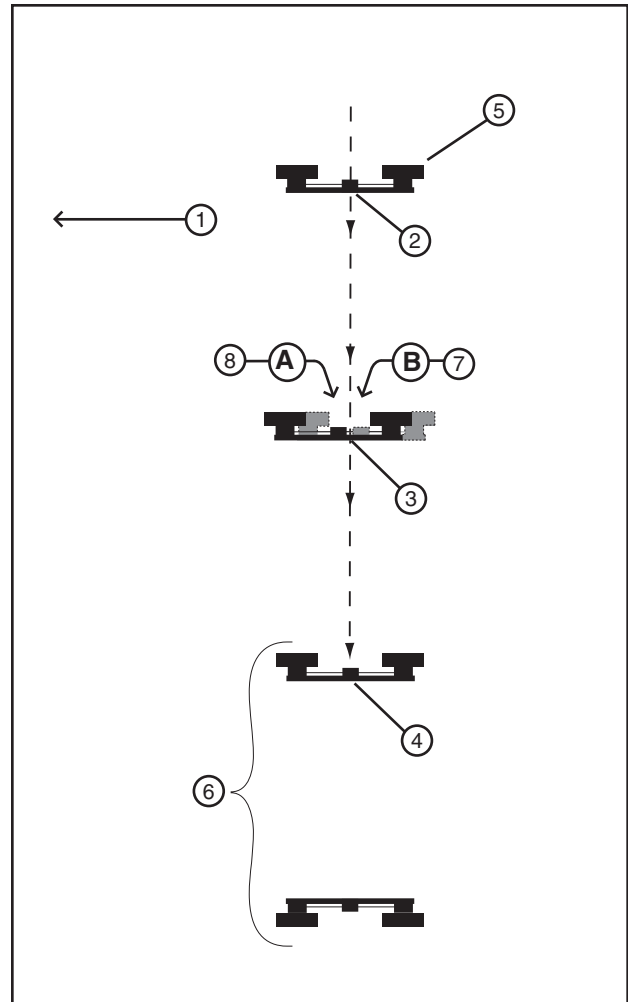

Figure 99-1 1. Direction of Travel 5. End Tower
2. Begin the alignment procedure from an end tower. Identify the first three towers as 1, 2, and 3. Use towers 1 and 3 to align tower 2. See figure 99-1.
3. Sight an imaginary center line between the center of the tower drive motor 1 to the center of the tower drive motor 3. See figure 99-1.
4. Observe the movement of the tower drive motor 2. It should start and stop equal distances from the imaginary center line. See figure 99-1.